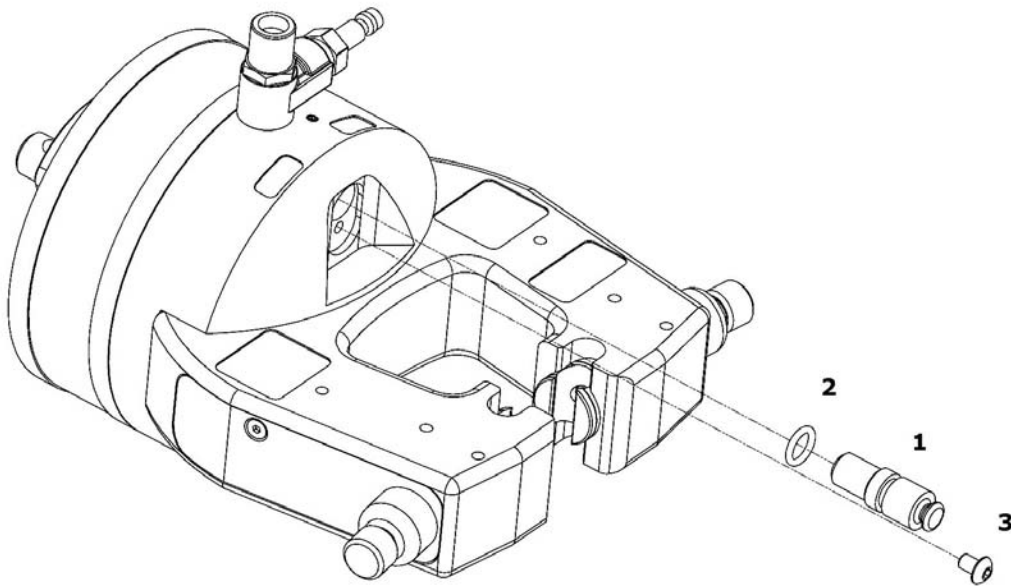

Figure 15. Install the plug
Label on Figure 15	Description
2. Apply a small amount of Magnalube-G lubricant to the o-ring and push the plug into the bore as shown in Figure 15 on page 38.
3. Thread the screw into the grip as shown in Figure 15 on page 38 and tighten it to secure the plug into the bore.